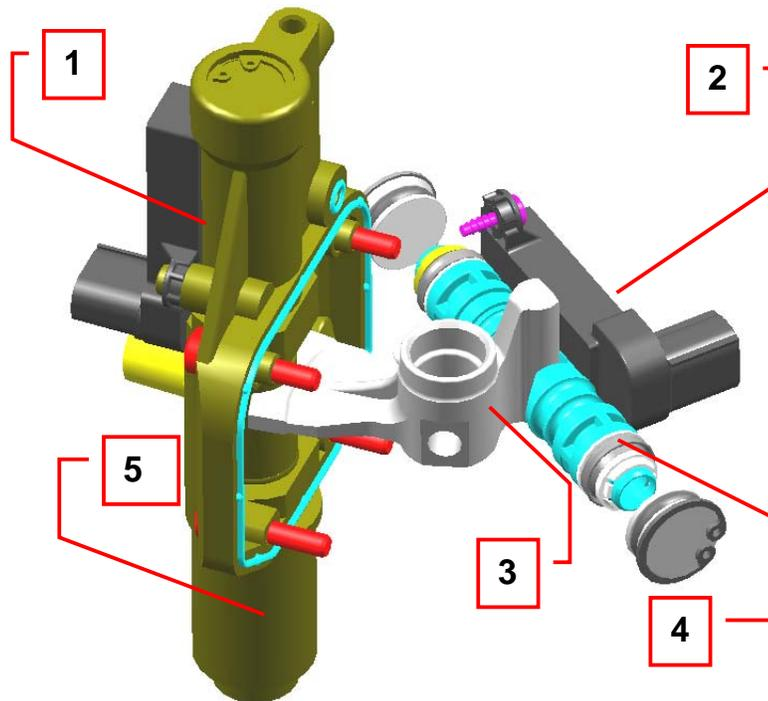

Fig 6
5. Mechanical selection and engagement unit (Fig. 6).